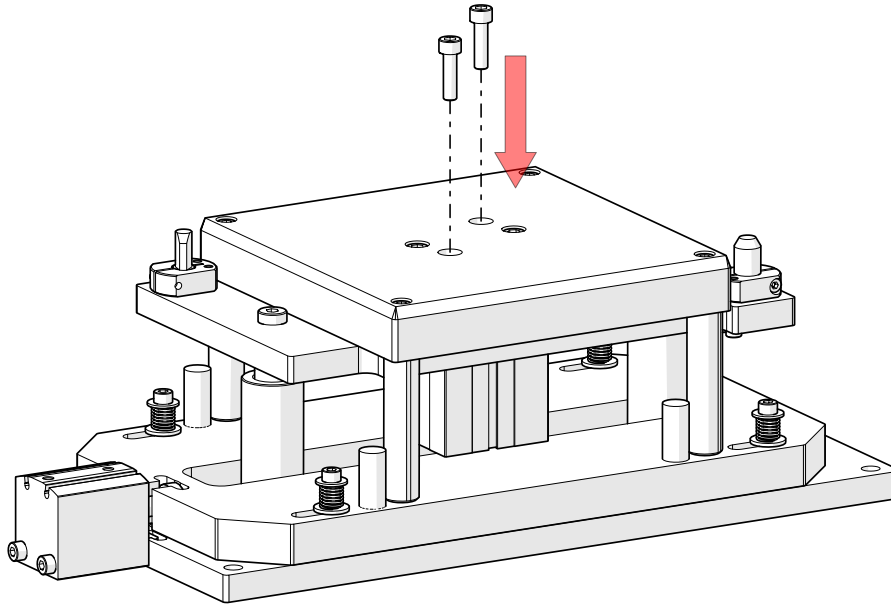

Figure 13: Reinstall M6 X 22 SHCS
Step 8: Reinstall M6 X 22 SHCS as shown in Figure 13